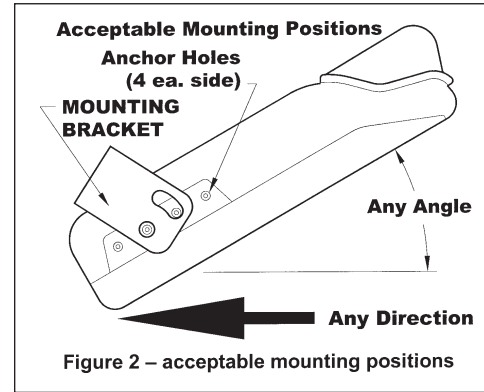
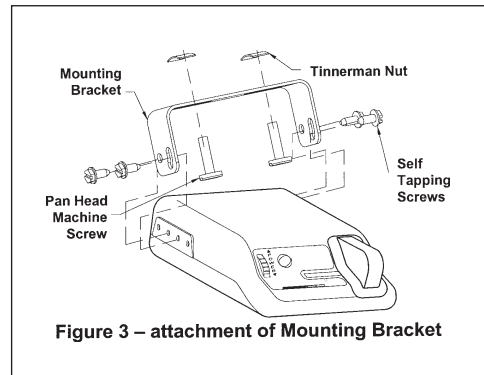

Figure 2 – acceptable mounting positions
Figure 3 – attachment of Mounting Bracket
1. Install the mounting bracket to a solid surface under the tow vehicle dash using the two machine screws and fasteners provided. Tighten until snug. See Figure 2- Acceptable Mounting Angles and Figure 3 - Attachment of Mounting Bracket.